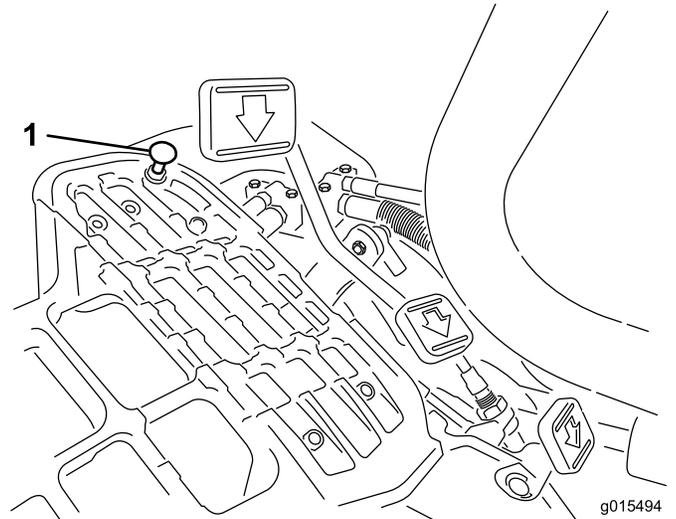

Figure 52
Press down on the traction pedal. If the pedal contacts the stop (Figure 52) before tension is felt on the cable, an adjustment is required:
1. Loosen flangehead locknuts securing the pedal stop to the floor plate (Figure 52).